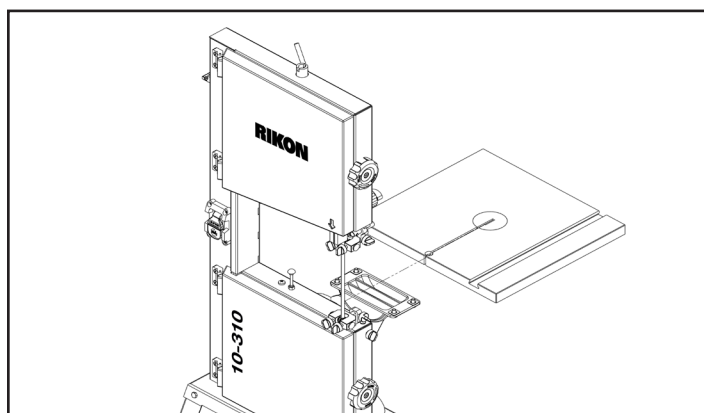

FIGURE 2
1. Mount the table (Part #146) in place on the trunnion. Do this from the rear of the machine, so that it is easier to fit the pre-installed blade through the slot in the table. FIG. 2.